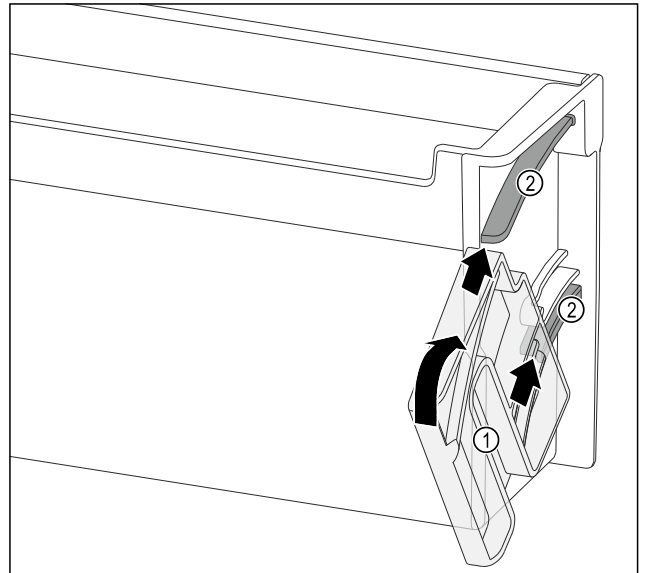

Fig. 140
- Position the turning unit Fig. 140 (1) so that the recesses are exactly opposite the guide channels Fig. 140 (2) of the door rack.
- Turn the turning unit Fig. 140 (1) towards the specified direction.